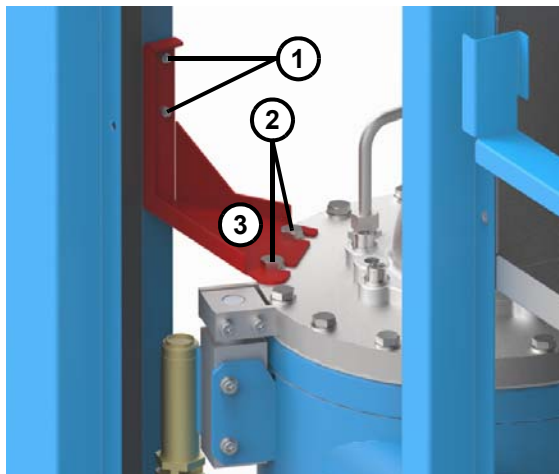

Fig. 4.6: Transport lock (3) on the compressed air-oil receiver (S 56-4 L...S 110-4 LF)
The procedure for removing the lock is the same for all machines, regardless of the size. To remove the transport lock (3) from the compressed air-oil receiver (see also Figure 4.6 or 4.7):
1. Remove the cladding of the compressor before connecting it, so that the transport lock (3) is accessible.
2. Two screws included. Unscrew the flat washers (1) from the outside and remove them.
3. Unscrew the two screws (2) and flat washers from the compressed air-oil receiver which were used to fit the transport lock (3) to the container.
4. Removing the transport lock (3).
- 5a. Machines S 56-4 L to S 110-4 LF: Screw the 2 previously loosened screws (2) and the flat washers of the compressed air-oil receiver back in again with a torque of **68 Nm**.
- 5b. Machines S 111-4 to S 160-4 LF: Screw the 2 previously loosened screws (2) and the flat washers of the compressed air-oil receiver back in again with a torque of **106 Nm**.